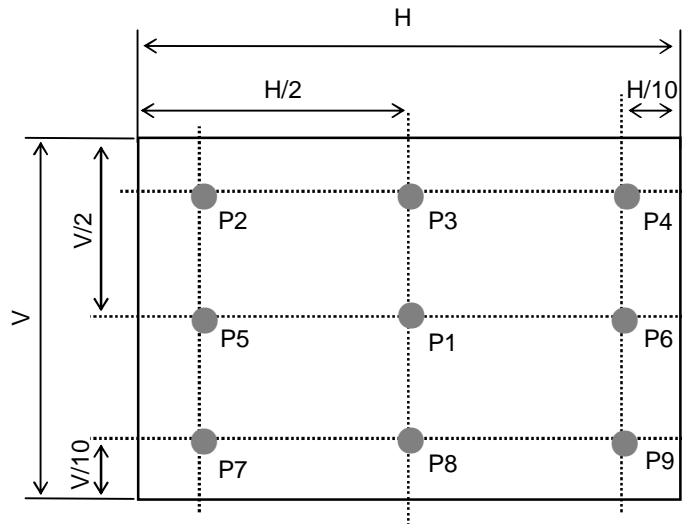

FIG. 2 Measure Point for Luminance
- Surface luminance(L_{WH})is luminance value at Center 1 point(P1) across the LCD surface 50cm from the surface with all pixels displaying white. For more information see FIG 2. (By PR880)
For more information see FIG 2.